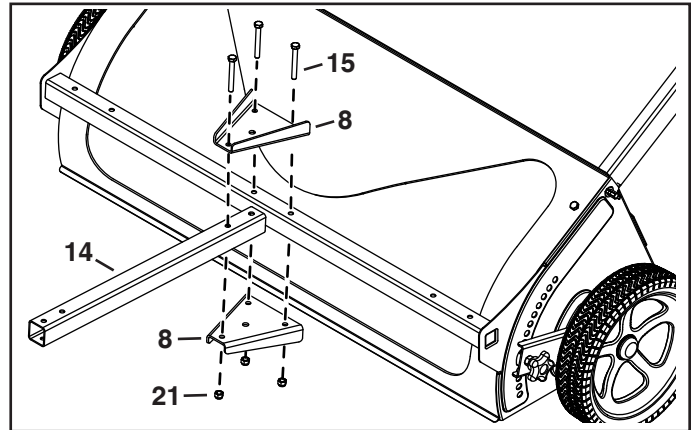

FIGURE 4
- Attach the drawbar (14) to the sweeper by fastening a drawbar bracket (8) above and below the drawbar using three 5/16" x 2-1/2" hex bolts (15) and 5/16" nylock nuts (21). See figure 4.